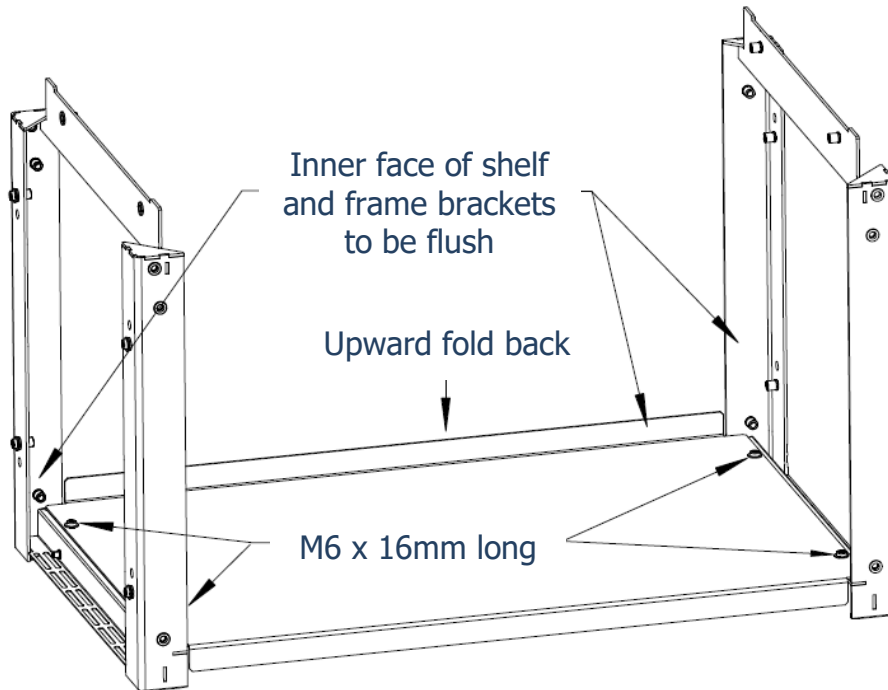

Figure 4
- Place the Shelf on to the frame brackets so that the inner face of the upward fold is flush with the inner faces of the frame brackets as shown in Figure 4.